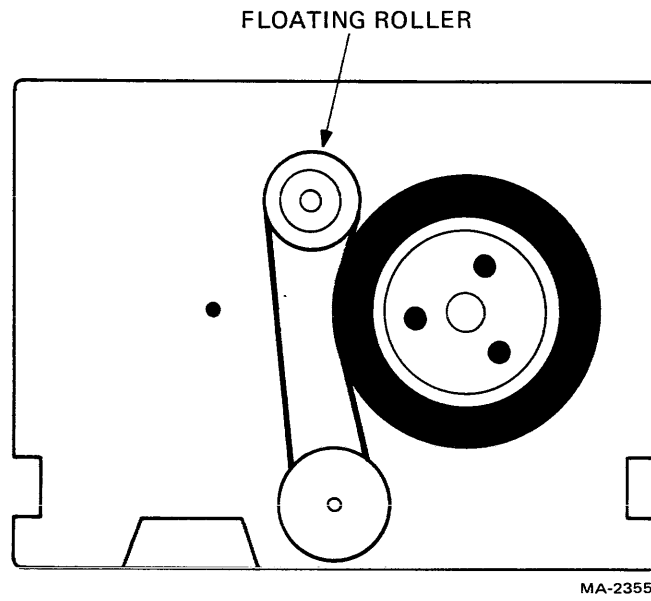

Figure 2-8 Stretch the Belt with the Floating Roller
2. Remove the floating roller (Figure 2-8).